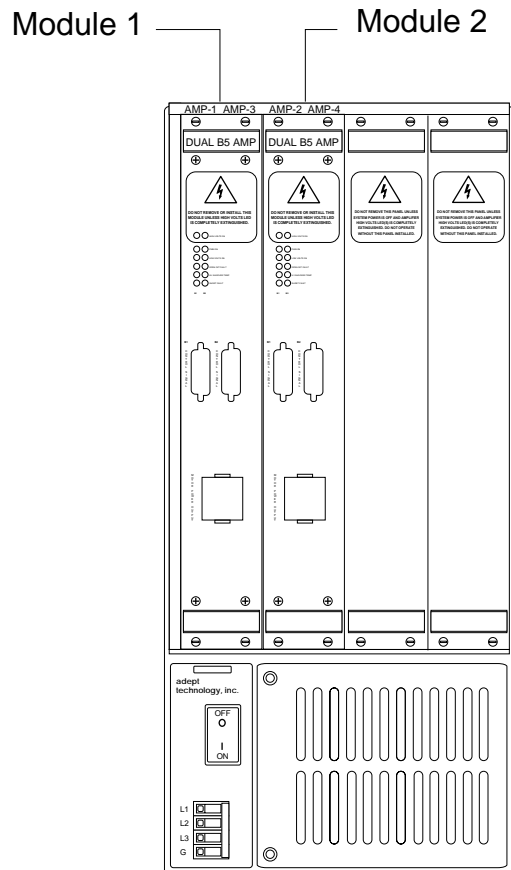

Figure 5-7. Amplifier Modules 1 and 2 in Power Chassis, Model 3303
3. Connect the other end of the motor power cable to the two matching connectors on the amplifier modules in the following order. (Figure 5-7).